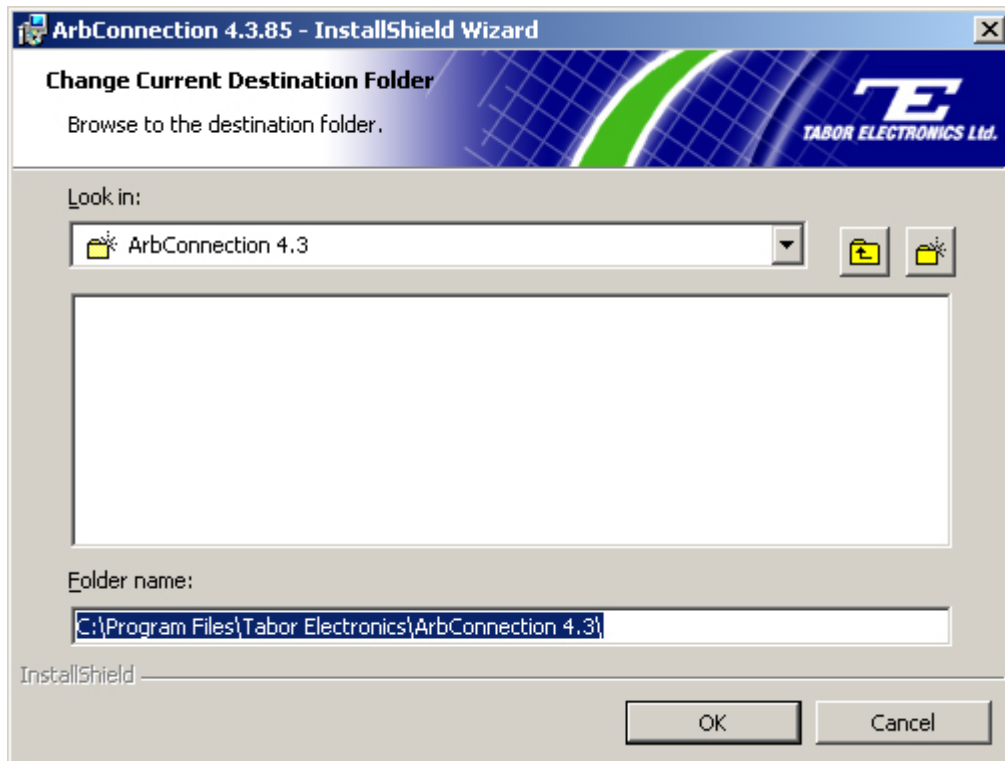

Figure 2-9: Select Alternative Destination Folder
8. At this point you can opt to change the destination folder by browsing until you find the correct location. Click on “ok” and your **ArbConnection** software will finish the installation process. (Figure 2-9)